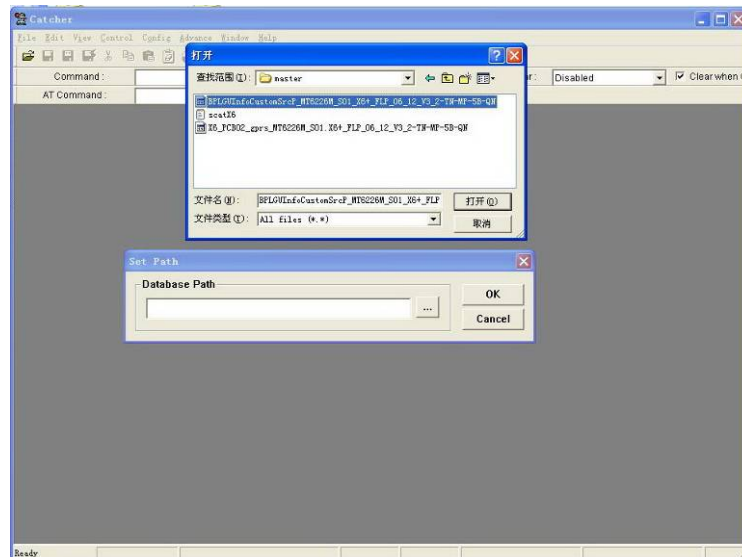

Figure 6
3.2 Click the button “...” in figure 5 to choose the Database file of the master phone or slave phone (for example “BPLGUInfoCustomSrcP\_MT6226M\_S01\_X6+\_FLP\_06\_12\_V3\_2-TN-MP-5B-QN” file ). Refer to figure 6 showed as below: